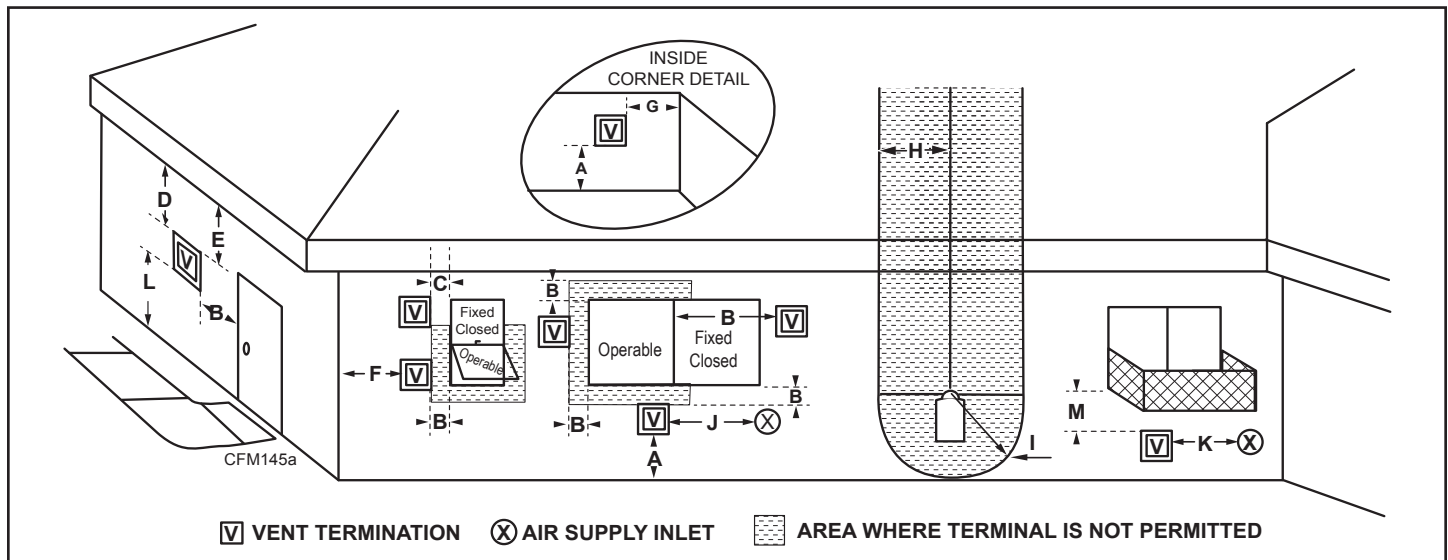

Figure 9 - Termination Locations
- Termination height must conform to roof clearance as specified in Figure 9.
**Important: All vent clearances must be maintained. Check your vent termination clearances against Figures 9 and 10.**